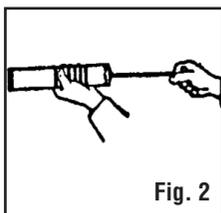

Fig. 2
2. Draw back the plunger handle entirely. (fig. 2)